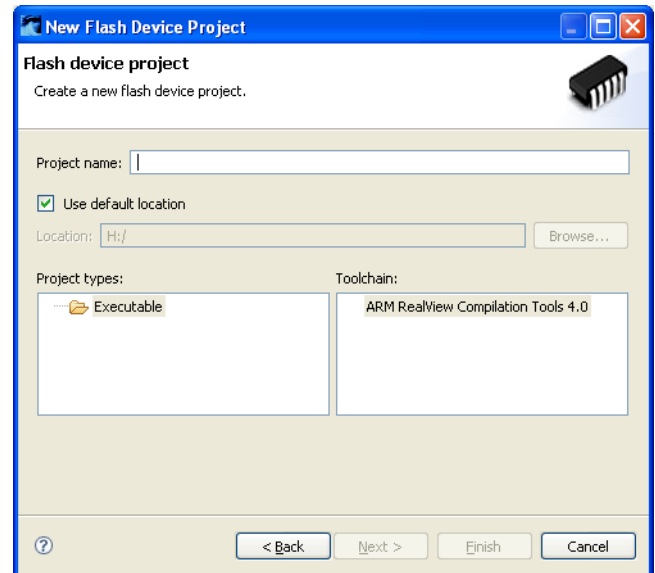

Figure 6-13 Naming your flash project
3. Enter a name for your flash device project, see Figure 6-13.